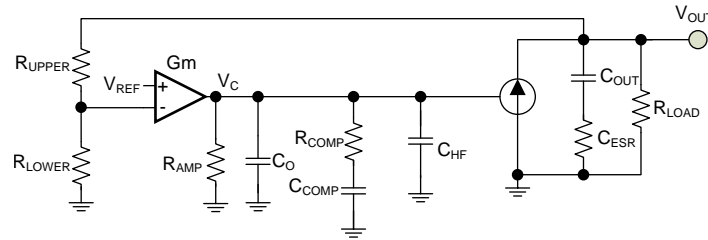

Figure 38. Transconductance Amplifier
A type II compensator using an transconductance error amplifier (EA) G_m is shown in Figure 38. The dominant pole of the EA open-loop gain is set by the EA output resistance, R_{AMP} , and effective bandwidth-limiting capacitance, C_O as follows: